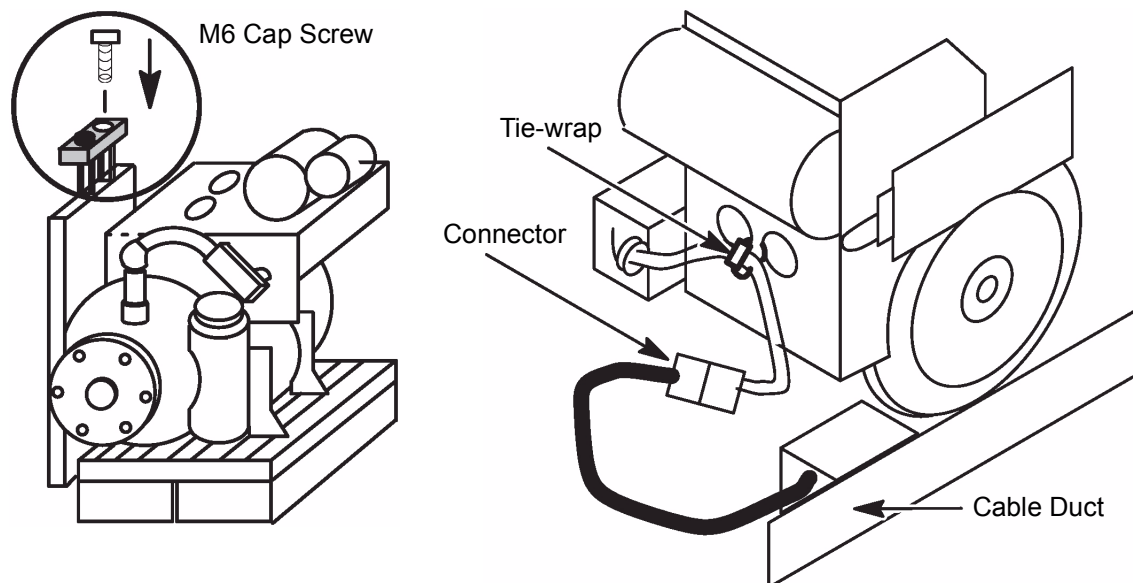

Figure 5 - X-Ray Tube Front View and M6 Cap Screw
- 16.) Disconnect the wire connector on the cathode side (Figure 5).
- 17.) Unscrew the M6 cap screw, which is used for ISO adjustment (Figure 5).